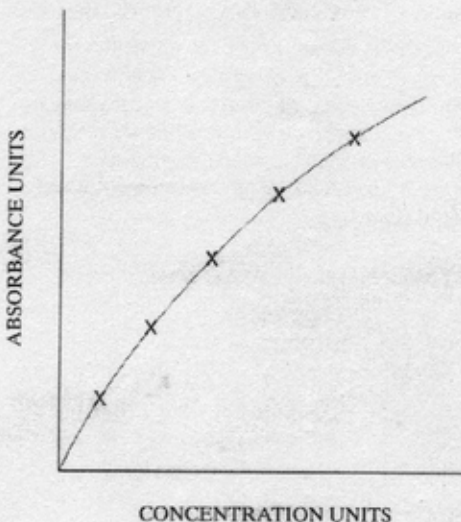

Fig. 4.24 Non-linear calibration showing a curved line joining the points plotted.
**Non-linear calibration:** When the calibration is non-linear, the points will follow a curve, not a straight line. The curved line should be drawn smoothly and pass through the point of origin as shown in Fig. 4.24.